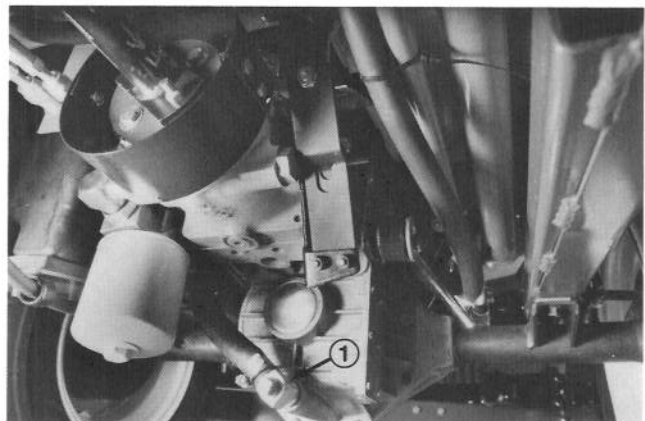
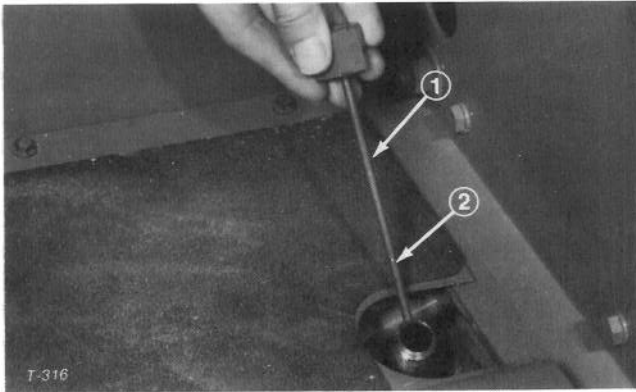

Figure 64
Figure 65
4. Remove drain plug from fitting between axle housing and oil filter and allow oil to flow into drain pan (Fig. 64).
6. Install drain plug in fitting between axle housing and oil filter (Fig. 64).
7. Remove dipstick from axle filler tube (Fig. 65) and fill axle to proper level with correct type and viscosity oil recommended for expected ambient temperature conditions; refer to table above.
9. Leave machine set for two additional minutes, then remove dipstick and check oil level in axle (Fig. 65). If level is low, add oil until level matches groove in dipstick (Fig. 65). If level is too high, remove drain plug (Fig. 64) and drain oil until oil level matches groove in dipstick.